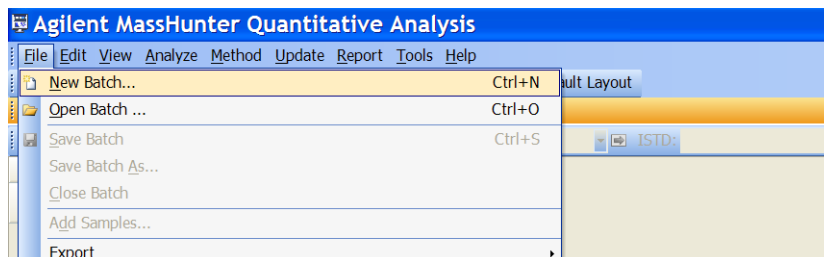

Figure 21 New Batch from the File menu
- a Click **File > New Batch**. See Figure 21.